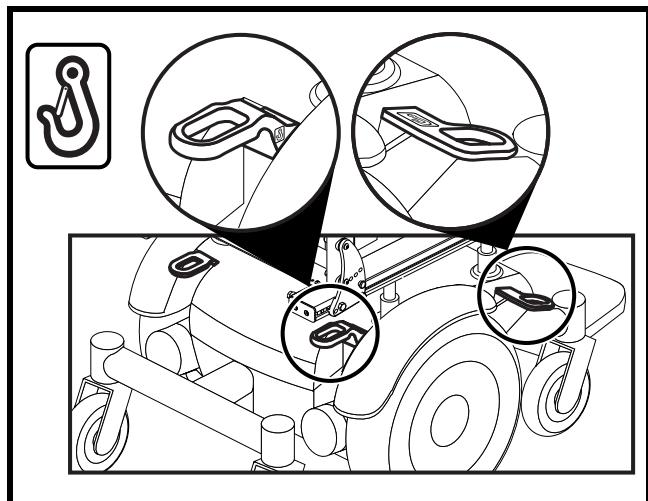

Figure 9. Transit System Securement Brackets
- Attach the four tie-down straps only to designated, labeled transit securement points indicated by anchor symbols on the power chair. See **figures 9 and 10**. Tighten the straps to sufficiently remove all slack.
- Position the anchor points for the rear tie-down straps directly behind the rear securement points on the power chair. The front tie-down straps should be anchored to floor points that are spaced wider than the power chair to provide increased stability. See **figure 9**.